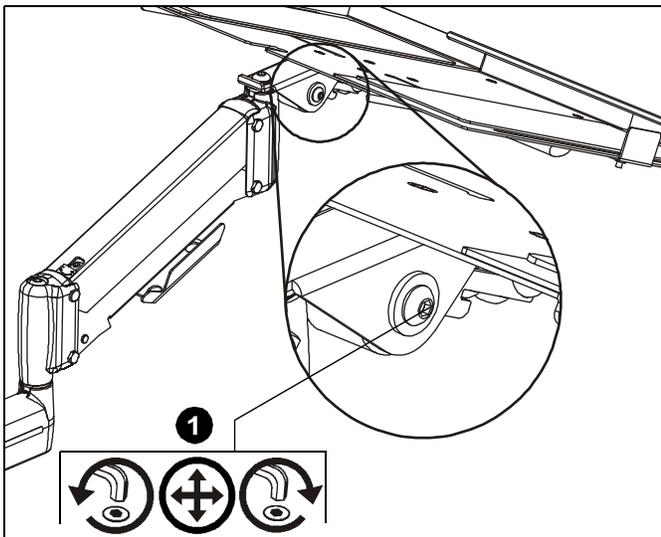

Figure 13
1. Using 3/16" hex key (S), slightly loosen or tighten the laptop tray tension adjustment screw as necessary. (See Figure 13)